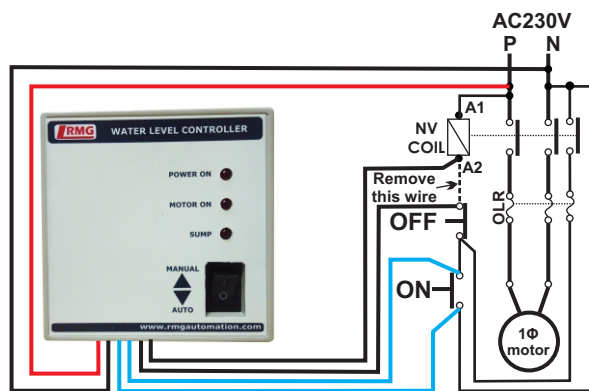

Figure2: 1Φ Starter
Step 4: For starter, connect the blue pair wires to ON button of starter in parallel and black wires to OFF button in series (refer to figure 2)